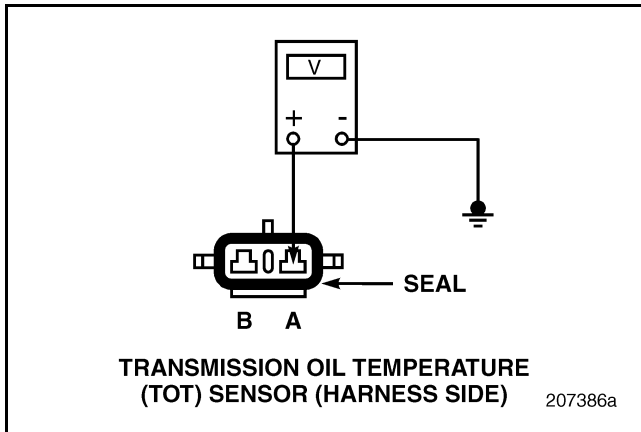

Figure 225
2. Measure the voltage between TOT Sensor harness connector pin A and a good ground (see Figure 225).